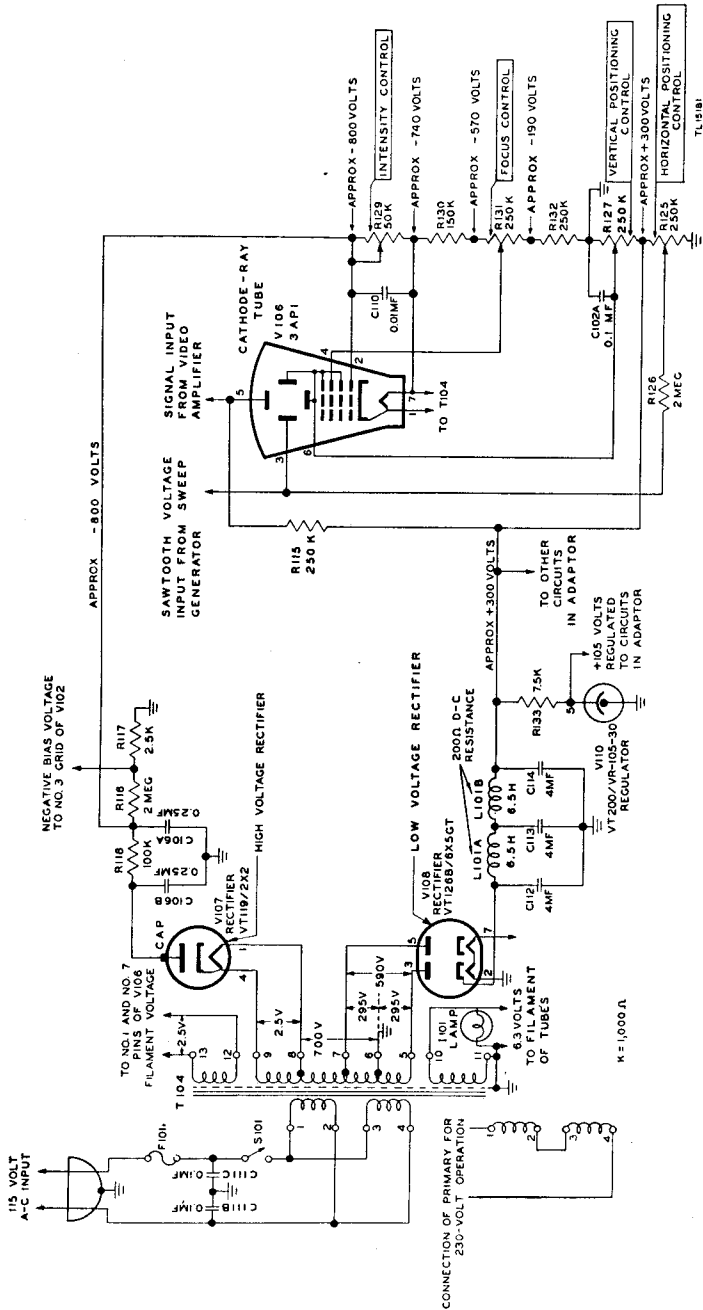

Figure 18. Simplified schematic diagram of rectifier power supplies and cathode-ray tube.
d. In addition to the saw-tooth voltage and signal voltages which are applied to the deflection plates of the cathode-ray tube, several fixed d-c potentials are necessary for the proper operation of this tube (fig. 18). D-c potentials must be impressed on the cathode, intensity or control grid, and the focusing and accelerating anodes, in order to concentrate the electrons into a sharp beam which will pass through the deflection plates and strike the fluorescent screen. Positioning voltage is also necessary on both the vertical and horizontal deflection plates so that the beam or pattern on the screen may be properly centered.
(1) Potentiometers R129 and R131 in series with resistors R130 and R132 act as a voltage divider between the -800-volt high-voltage rectifier output and the chassis ground. Potentiometers R127 and R125 across each of which is impressed a +300-volt potential, serve as positioning controls.
(2) The electron emitter, or cathode, of V106 is impressed with a high negative voltage between approximately -740 volts and -800 volts, the exact voltage depending on the setting of the intensity control R129. In addition to affecting this voltage, potentiometer R129 also controls the potential difference between the cathode and the intensity grid. By making this difference of potential greater, the grid becomes more negative than the cathode and reduces the amount of electron flow, and thus the amount of illumination on the fluorescent screen. Conversely, when the potential difference is decreased, the grid becomes less negative in respect to the cathode and a greater number of electrons pass through the tube to the screen.
(3) The electrons, after leaving the cathode and passing through the intensity grid, are greatly accelerated by the high positive potentials impressed on the focusing and accelerating anodes.
The adaptor is designed to operate from 115- or 230-volt, 50/60-cycle alternating current. The a-c power source is applied to the primaries of transformer T104 through fuse F101 and switch S101, the POWER ON-OFF switch of the adaptor (fig. 1). Capacitors C111B and C111C act as line filters to prevent interference from entering the adaptor through the power connections. The transformer primaries are connected in series (fig. 18) when the power source is 230 volts and are connected in shunt (fig. 18) when the power source is 115 volts. The secondary windings of transformer T104 supply the a-c voltages for the high and low voltage rectifiers, as well as the filament voltages for the various tubes in the adaptor. The circuit shown in figure 18 is a simplified schematic diagram of the power supply and cathode-ray tube in Panoramic Adaptor BC-1031-A or BC-1032-A. Section IV explains the differences between these models and Panoramic Adaptors BC-1031-B and BC-1032-B.
(4) The two output voltages are tapped off the voltage divider R118, R116, and R117.
(5) The output power of this rectifier is characterized by high voltage and low current.
b. Low-voltage Rectifier (fig. 18). Tube JAN 6X5GT (VT-126B), V108, is a full-wave rectifier tube employed in the low-voltage power supply. This rectifier furnishes a +300-volt d-c potential to various circuits in the adaptor as well as horizontal and vertical positioning voltages for the cathode-ray tube. In addition, it supplies regulated +105-volt, d-c potential for the plate of V101 and the screen grids of V102 and V105.
(1) The anodes of tube V108 are connected across a 590-volt winding of transformer T104, the center-tap connection on this winding being grounded.
(2) The output voltage of the rectifier is well filtered by an L-C capacitor-input network, consisting of capacitors C112, C113, C114, and choke coils L101A and L101B.
(3) The output power of this rectifier is characterized by low ripple voltage and good regulation.
(4) The +300-volt output is impressed across resistor R133 and tube V110, a gas regulator Tube JAN 0C3/VR-105 (VT-200). This tube maintains a constant voltage drop of 105 volts across its terminals. The operation of the tube is relatively simple. As the voltage across the tube tends to increase, the internal resistance of the tube decreases; thus more current is drawn through the series resistor R133, and the voltage across the tube is maintained at a constant level. Conversely, if the voltage across the tube tends to decrease, the internal resistance increases, less current is drawn through the series limiting resistor, and again the voltage across the tube remains constant. The starting voltage necessary to bring the tube to the point of conduction is somewhat higher than the operating voltage. The tube has upper and lower limits of current flow through it, namely, 30 milliamperes and 5 milliamperes.